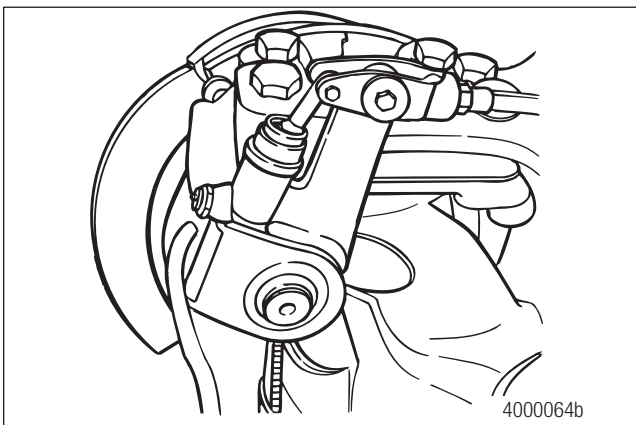

Figure 7.32
5. Install the pin and retainer that engages the push rod yoke and the slack adjuster plunger rod. Figure 7.32.